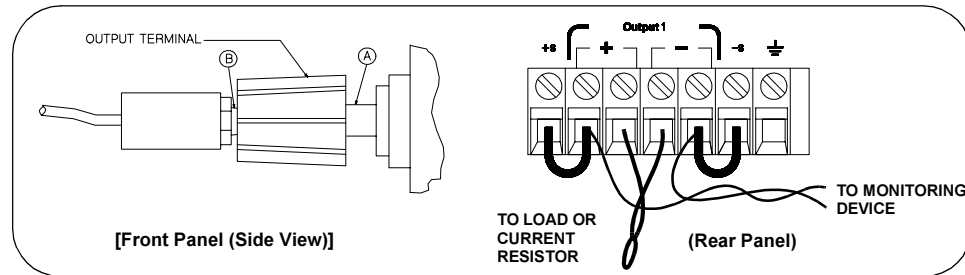

Figure A-2 Front/Rear Panel Terminal Connections
When measuring Vrms ripple and noise, the monitoring device should be plugged into the front of the terminals at (A) in Figure A-2. Use the BNC (Female) receptacle and the cable (BNC to BNC) to connect the monitor device to the power supply. To reduce the measurement error caused by common mode noise, it is recommended to twist the connection wire between the BNC receptacle and the output terminals. The load resistor is connected to the terminal at (B) in Figure A-2. Twisted leads between the load resistor and the power supply helps reduce noise pickup for these measurements.